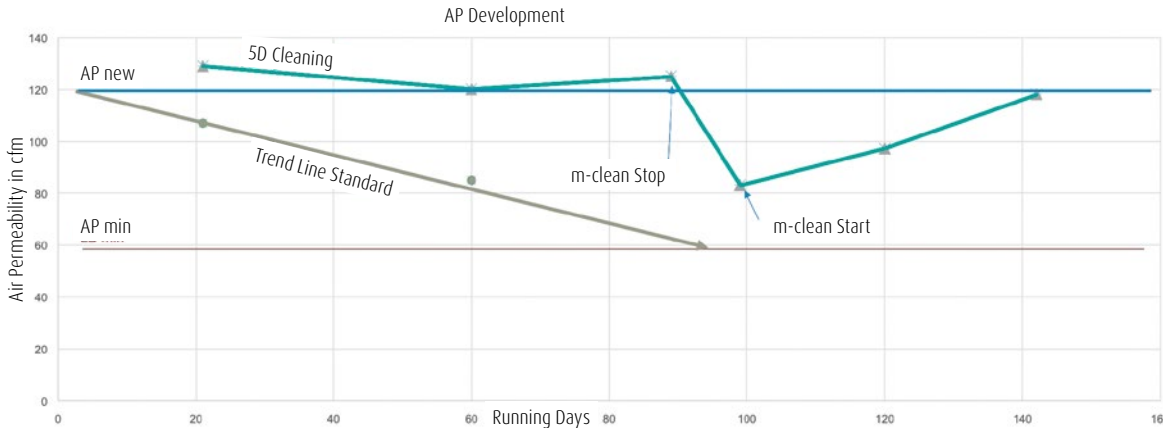

Fig. 4: New values in air permeability after several cleanings of heavily soiled dryer fabrics
W. Raschka: Since it is known that it is easier to keep dryer fabrics clean than to clean dirty dryer fabrics, we also dared to use the successes with new dryer fabrics on already soiled dryer fabrics. Even with very heavily soiled fabrics, we were able to regain the new values in air permeability after several cleaning cycles during production. A result that had never been seen before. Up to now, it was thought that cleaning units could only slow down the reduction in air permeability but could by no means restore the original condition. This theory has now been refuted (Fig. 4).